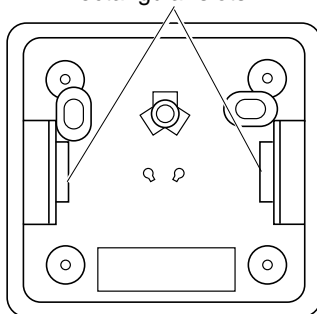

Figure 23- Back View of Thermostat Base
6. Feed the electrical wires through the rectangular slots (from the back) on each side of the base (see Figure 23).